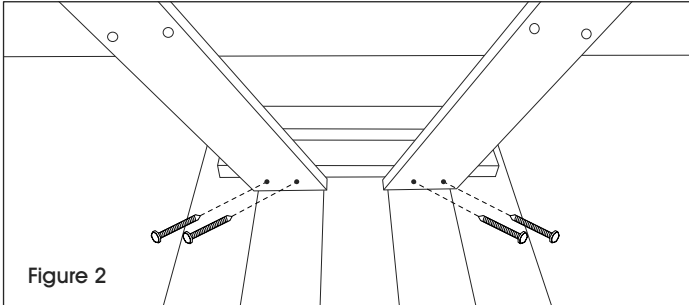

Figure 2
5. Place the preassembled table top upside down. Position the legs on the inside mount of the support bar. Make sure the legs are equal distance from either table edge and the cross-member is facing out. (See Figure 2)